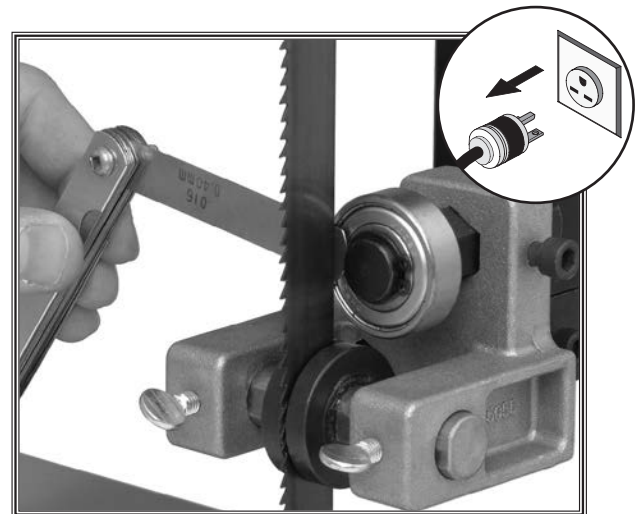

Figure 25. Setting 0.016" support bearing clearance.
7. Insert a feeler gauge and set the support bearings with a gap of 0.016" between the bearing and blade (see **Figure 25**).